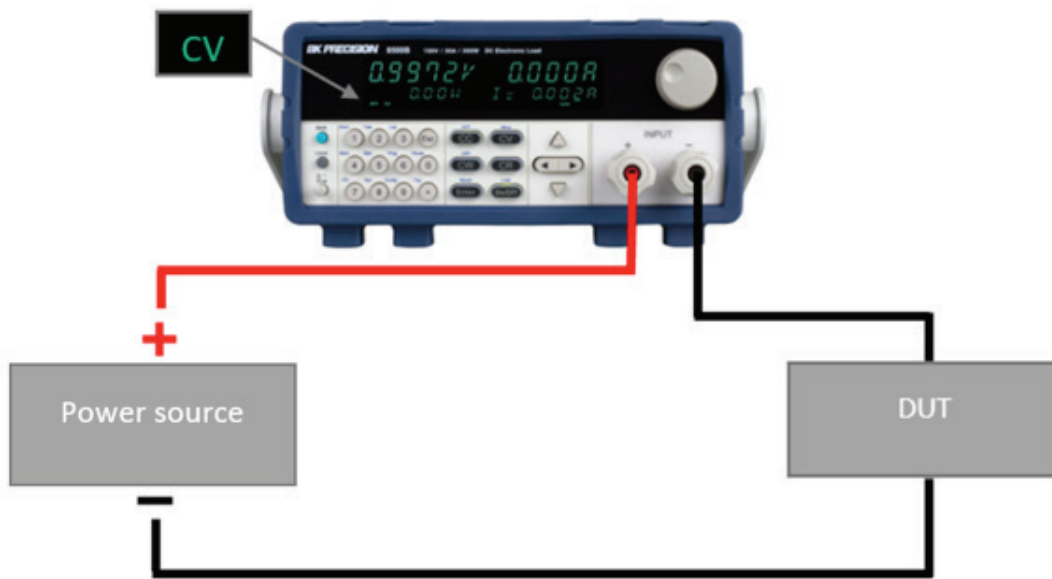

Figure 2: 8500B DC Electronic load in CV mode
1. Place the DC load in series with the DUT as shown in Figure 2 below.
2. Power on the DC Load and set it to Constant Current (CV) mode.